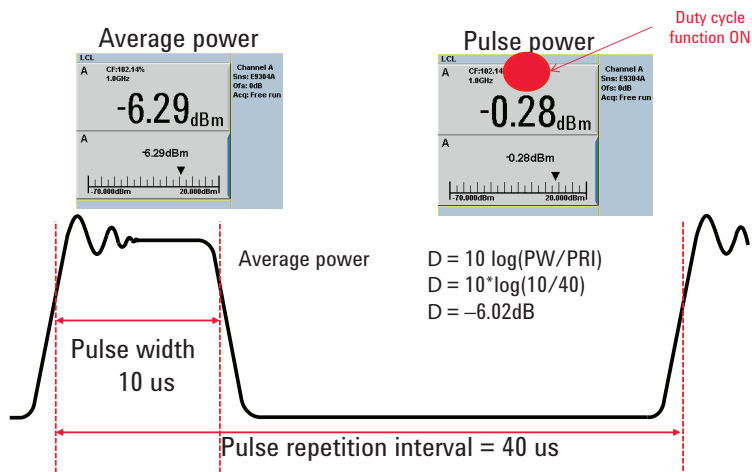

Figure 12. Calculating pulse power using the duty cycle method
Figure 12 shows the measurement of a pulse signal with a pulse width (PW) of 10 μ s and a pulse period (pulse repetition interval or PRI) of 40 μ s. The signal is set with a power level of approximately 0 dBm. Using an average power meter to measure the average power of the signal gives a result of -6.29 dBm. The duty cycle, which is PW/PRI or 10 μ s divided by 40 μ s, equal to 25%. This value is entered into the power meter to obtain a pulse reading of -0.28 dBm.
The equation shown in Figure 12 is used by the power meter to calculate the difference between pulse power and measured average power. The result is a value in which the pulse power is 6.02 dB higher than the average power. As the figure suggests, however, the pulse may not be purely rectangular. There is an associated rise and fall time as well as possible overshoot on the signal. The combination of these effects will create an error in the calculated result. A more accurate method of determining the peak power in this case is with a peak power meter.